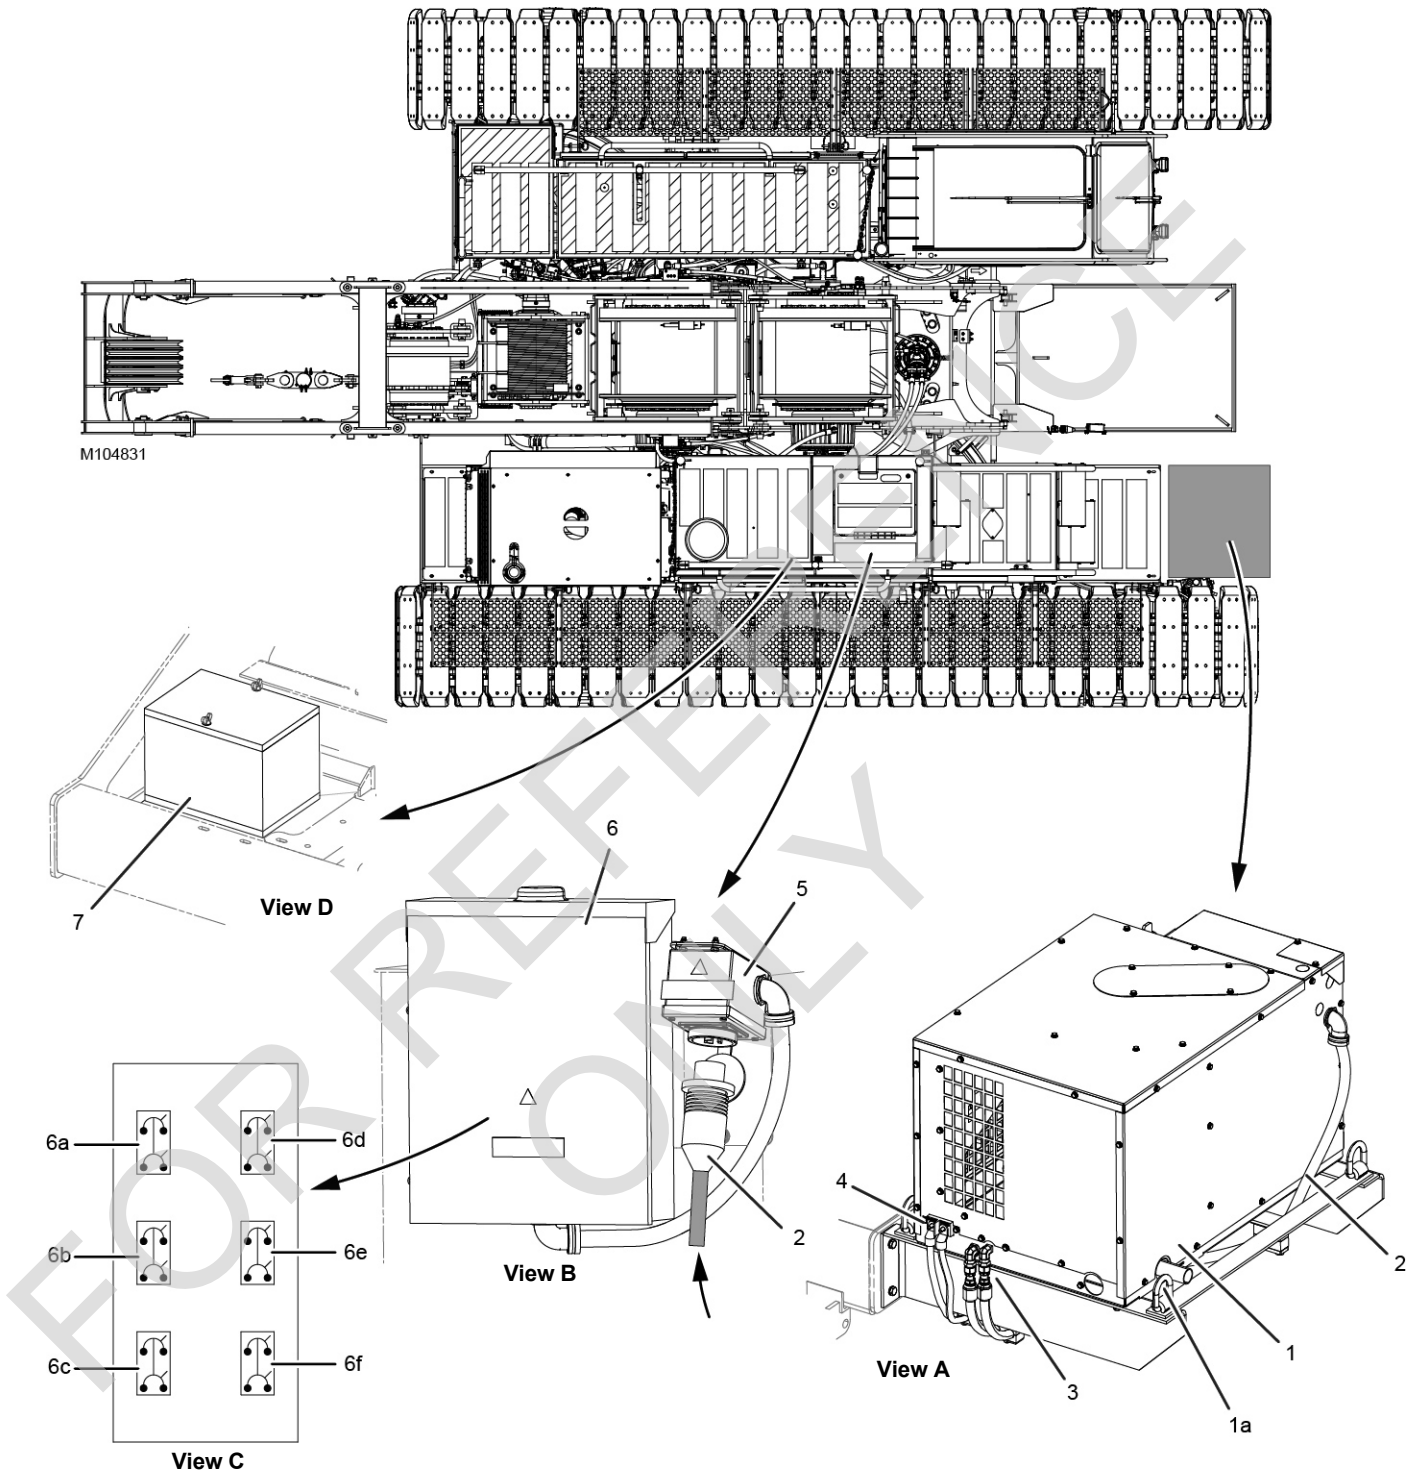

Figure 3-21. AC Generator
Legend for Figure 3-21
See Figure 3-21.
- Gantry (optional) — two 240V, 150W floodlights — controlled by a circuit breaker in the load center (Figure 3-21)
- Boom (optional) — three to five 240V, 150W to 300W floodlights or spot lights — controlled by a circuit breaker in the load center (Figure 3-21)
| 6 | Load Center (see Figure 3-21 on page 3-51) |
Refer to Figure 3-21 for identification of the heater circuit breakers.